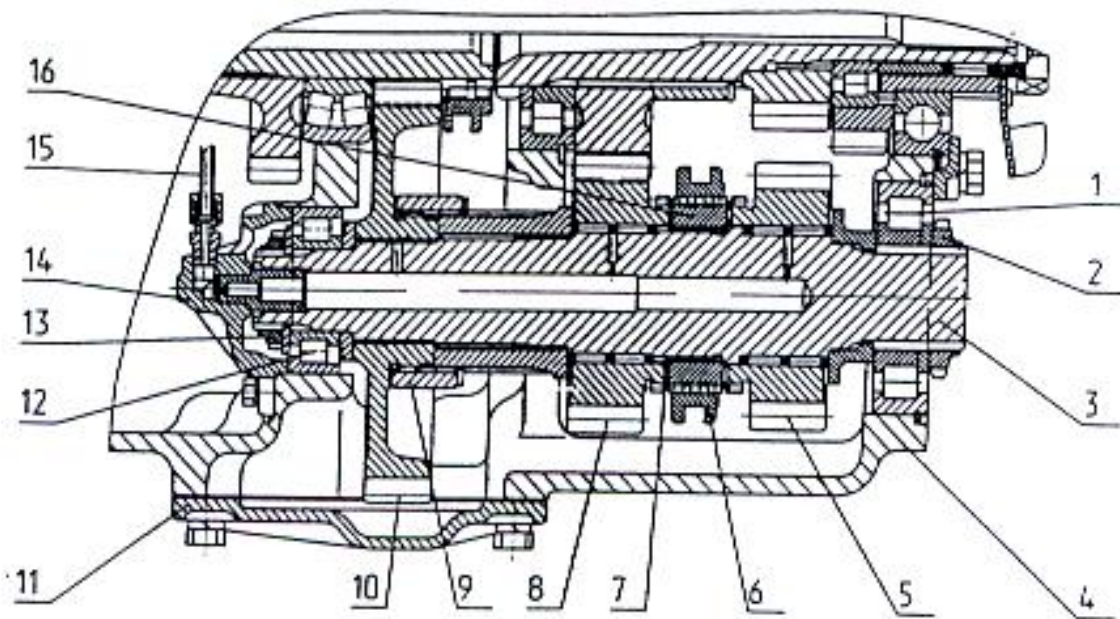

Fig. E-15.2 Downshift and reverse gear shaft:
The downshift and reverse gear shaft 3 (see Fig. E-15.2) is mounted in the body (4) and rests on bearings (1 and 12). The shaft also carries a driven pinion (10) which is coupled to the shaft through bushings (9), forward driving pinion (8) and reverse pinion (5) running in needle bearings. These pinions are coupled with the shaft through a toothed coupling (6). Bushing (16) which sits on male splines of the shaft is locked on the shaft by means of a retaining ring (7).
In the casing (1), the fork (37) for changing-over the toothed coupling (36), the fork for changing-over the toothed coupling (6) (see Fig. E-15.2) and the fork (18) for changing-over the synchronizer (26) (see Fig. E-15.1) are mounted on the dogs. The dogs are locked in the body with ball-point locks.